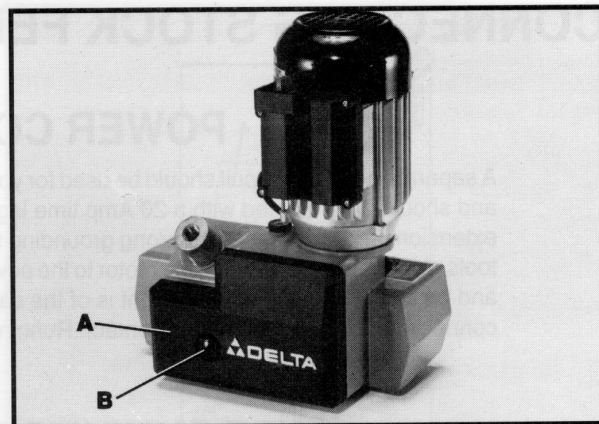

Fig. 6
To remove gear box cover (A) Fig. 6, turn knob (B) counterclockwise. The numbers shown within the circles in Fig. 7, refer to the number of teeth on the gears as shown at (C), (D), (E) and (F). With the 34 and 16 teeth gears in the arrangement shown at (C), the feed rate will be 14 FT/MIN (4 M/MIN). By interchanging the 34 and 16 teeth gears as shown at (D) Fig. 7, the feed rate will become 63 FT/MIN (19 M/MIN).